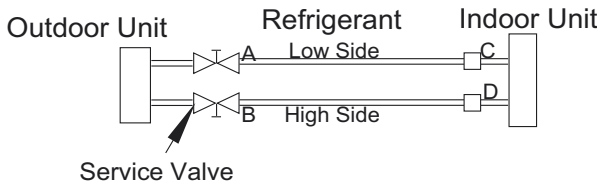

Fig. 21 – Service Valve
- 1 Completely tighten the flare nuts (A, B, C, D, E). Fully open all circuits service valves. Connect the manifold gage charge hose to the charge port of the low side Master service valve to evacuate all circuits at the same time (see Fig. 21).